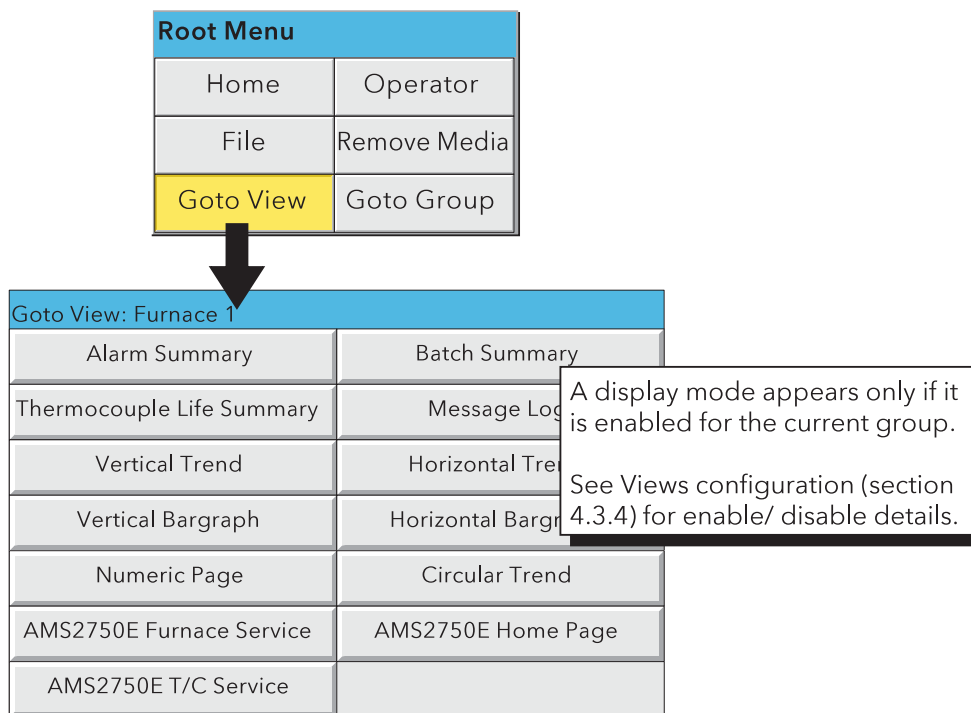

Figure 3.2.1a Root menu with Goto View sub menu
- Go to View** Allows the user to select the display mode for the current group, as shown in figure 3.2.1a. Display modes not enabled for this group in Config/Views configuration page (section 4.3.4) do not appear. As an alternative, display modes can be scrolled-through using the up and down arrow navigation keys. Goto View also offers an alternative means of entry to the various Summary pages described in section 3.1.4, and to the current group's Message Log pages.